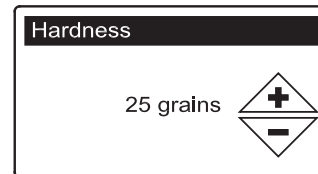

FIG. 19
- HARDNESS** Press the UP (▲) or DOWN (▼) buttons to set the value of your water's hardness (See Figure 19).